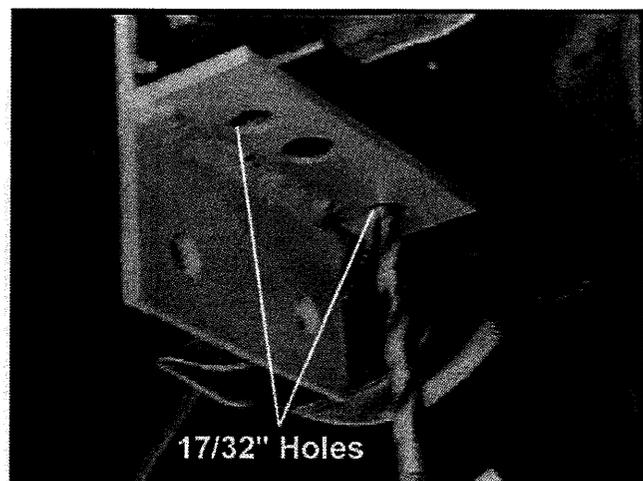

Figure 5
3. Using rear subframe brackets as templates, drill two 17/32" holes through the bottom of the vehicle frame on each side. See Figure 5.